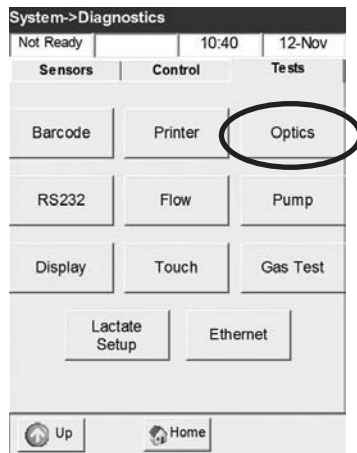

Fig. 7-16 Optics Test
- Press **<Optics>** to start the test (Fig. 7-16).